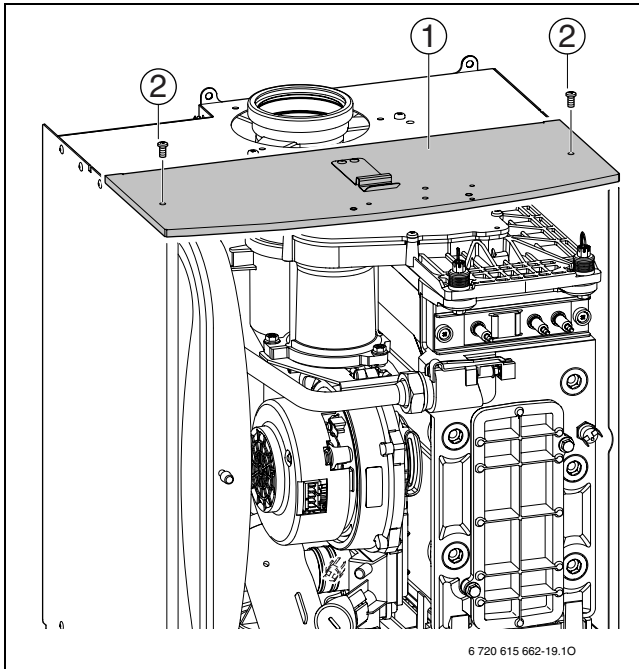

Fig. 69
- ▶ Remove two screws [2] from top cover [1] and lift off cover (→ Fig. 69).
- ▶ Remove clips [3], nuts [4] and [5] and two screws [7] (→ Fig. 69).